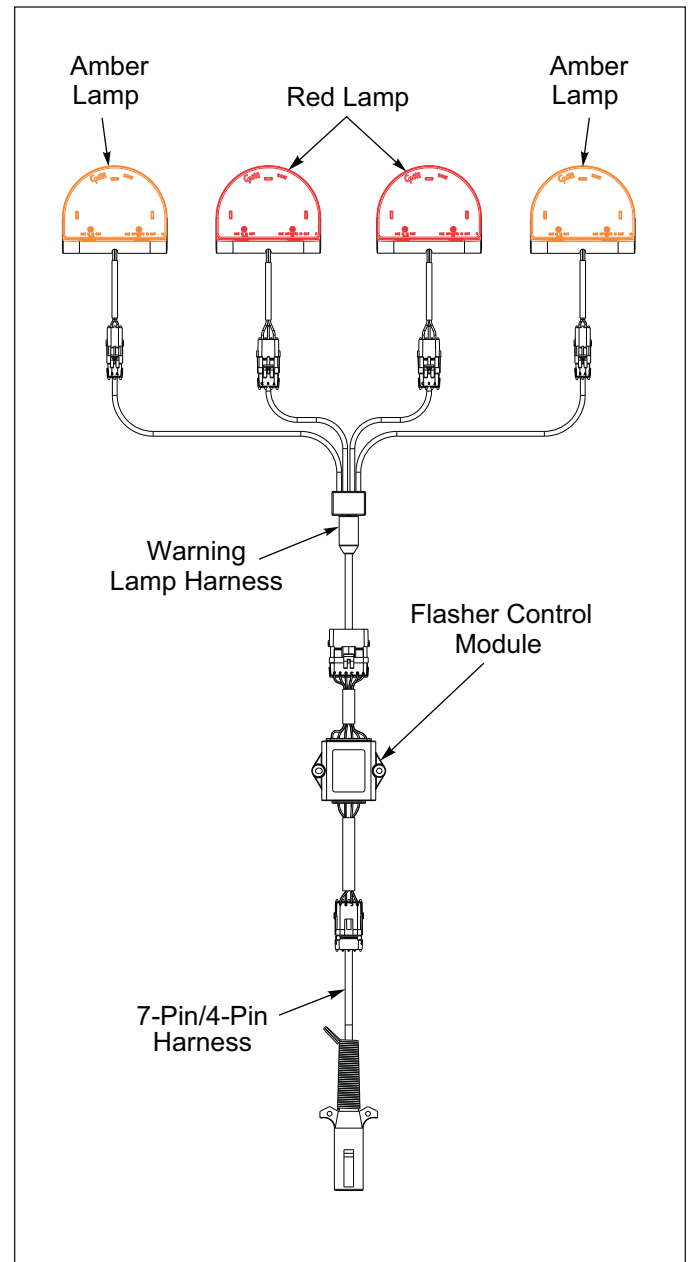

Figure 4-5: Warning Lamps
1. Make sure the Tractor has a good clean Receptacle, free of dirt and corrosion. **See Figure 4-5.**